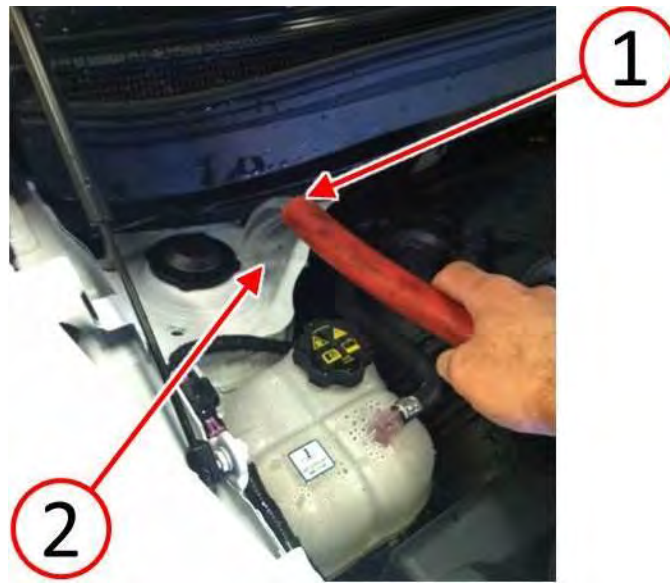

Fig. 11 Water Test
13. After the sealant has been allowed to fully dry, flow water (1) into the opening (2) between the cowl plenum lower panel and dash crossmember for one full minute (Fig. 11). While water is flowing, inspect for any water leaks as described in Step #14.